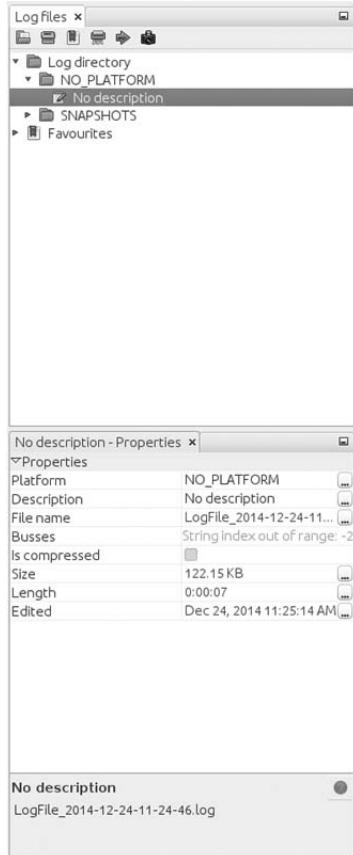

Figure 5-5: Right pane of Log files tab settings
To record CAN packets with Kayak, first click the Play button in the Log files tab ①. Then drag one or more buses from the Projects pane to the Busses field of the LogOutput window ②. Press the Record and Stop buttons at the bottom of the LogOutput window ③ to start or stop recording. Once your packet capture is complete, the logging should show in the Log Directory drop-down menu (see Figure 5-5).
Other than some metadata (PLATFORM, DESCRIPTION, and DEVICE\_ALIAS), the log is pretty much the same as the one captured by the can-utils package: ❶ is the timestamp, ❷ is your bus, and ❸ is your arbitration ID and data separated by a # symbol. To play back the capture, right-click the **Log Description** in the right panel, and open the recording (see Figure 5-5).